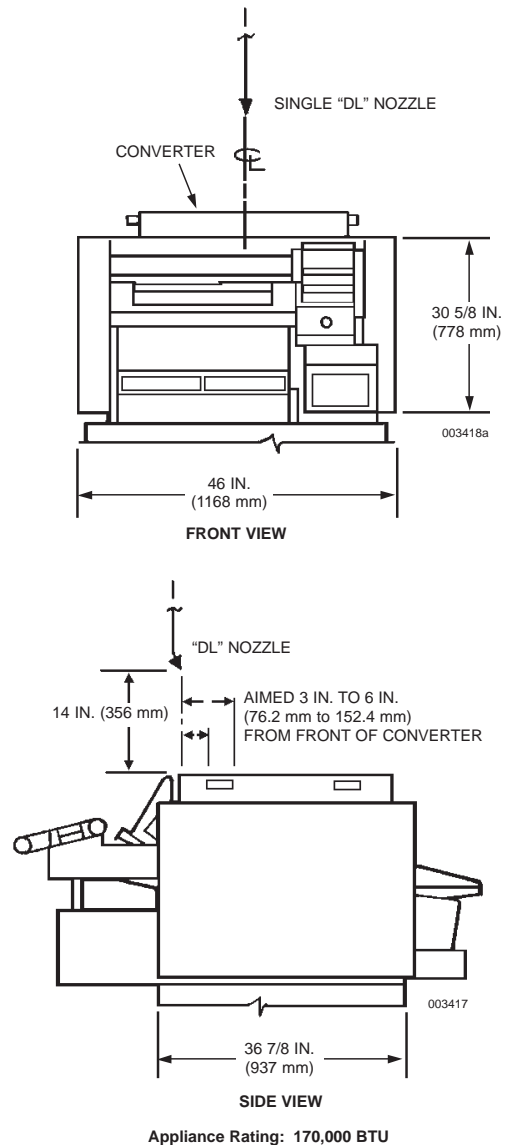

FIGURE 31
- **Nozzle Location:** The nozzle tip must be located 14 in. (356 mm) directly above the appliance, aligned with the front face and centerline of the catalytic converter. The aim point must be 3 in. to 6 in. (76.2 mm to 152.4 mm) behind the front edge of the converter on the centerline. See Figure 31.